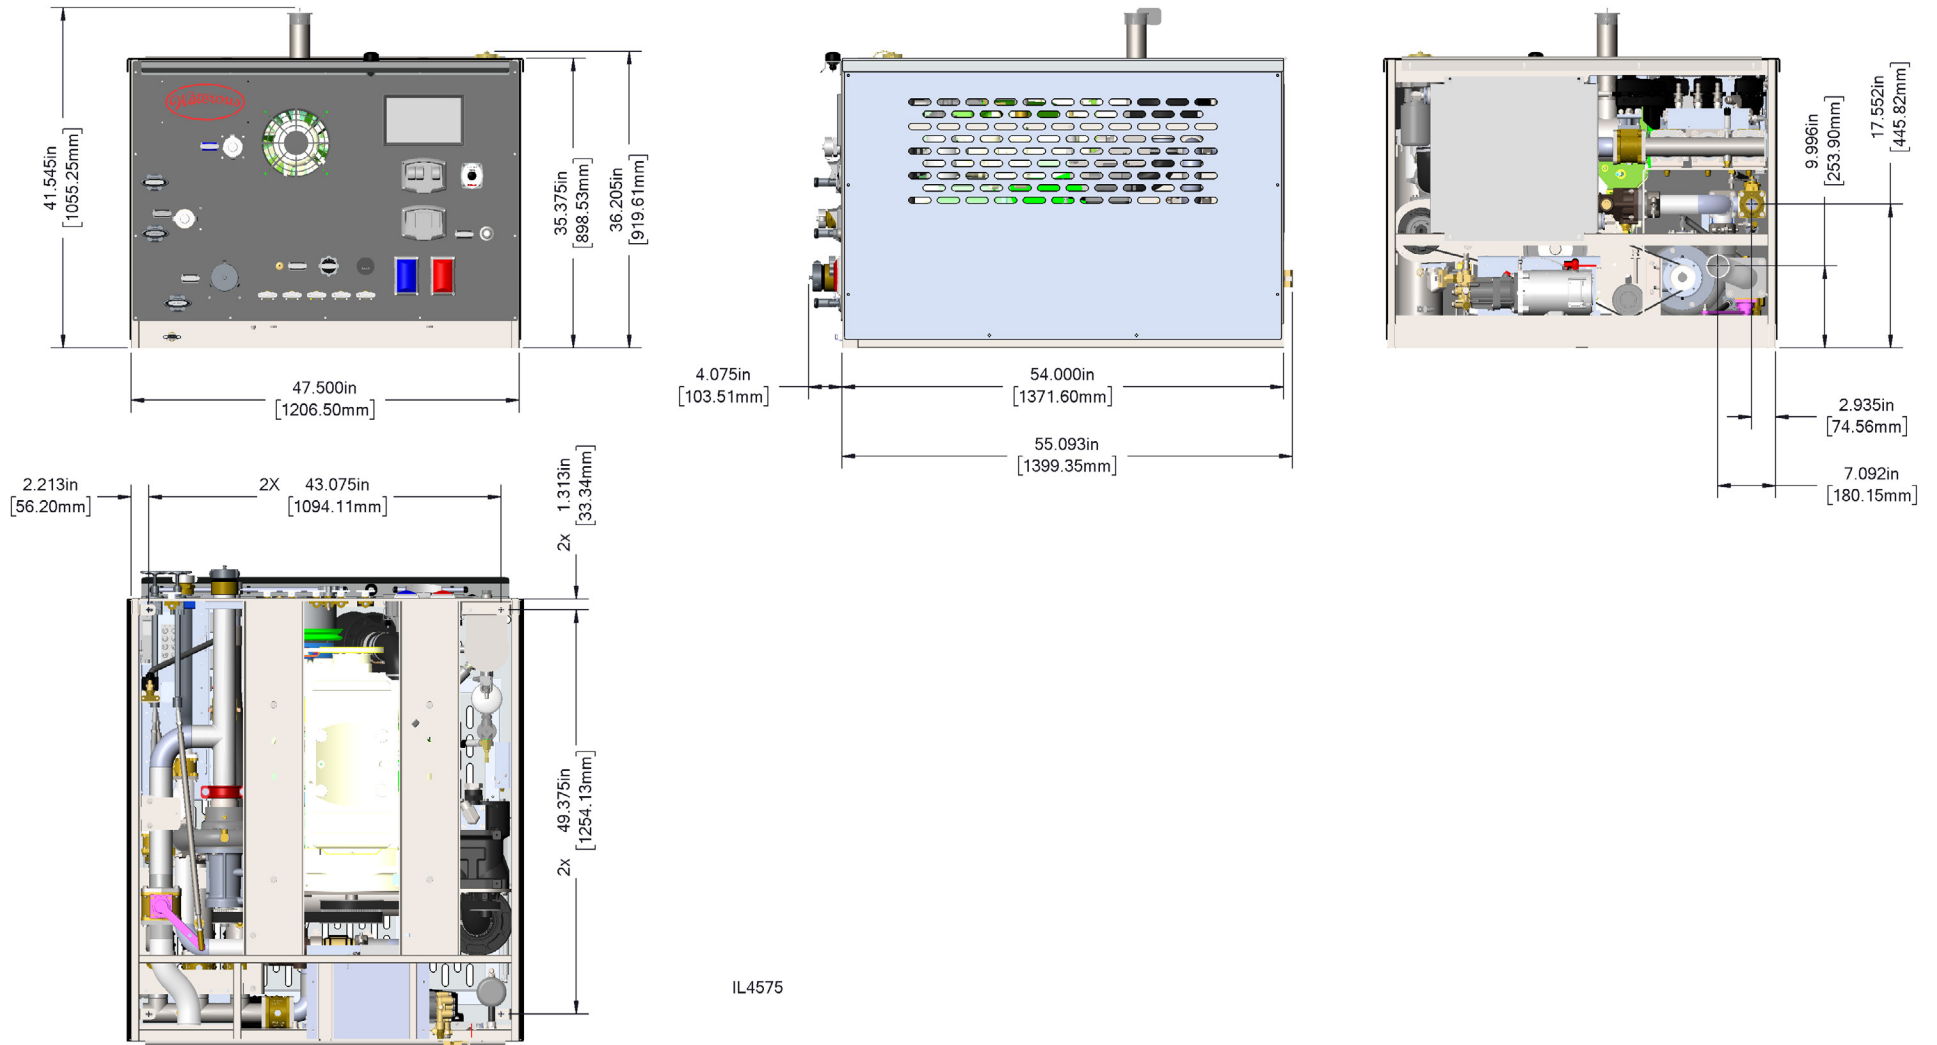

Figure 12
1. Use the dimensions in **Figure 12** to locate the mounting holes.